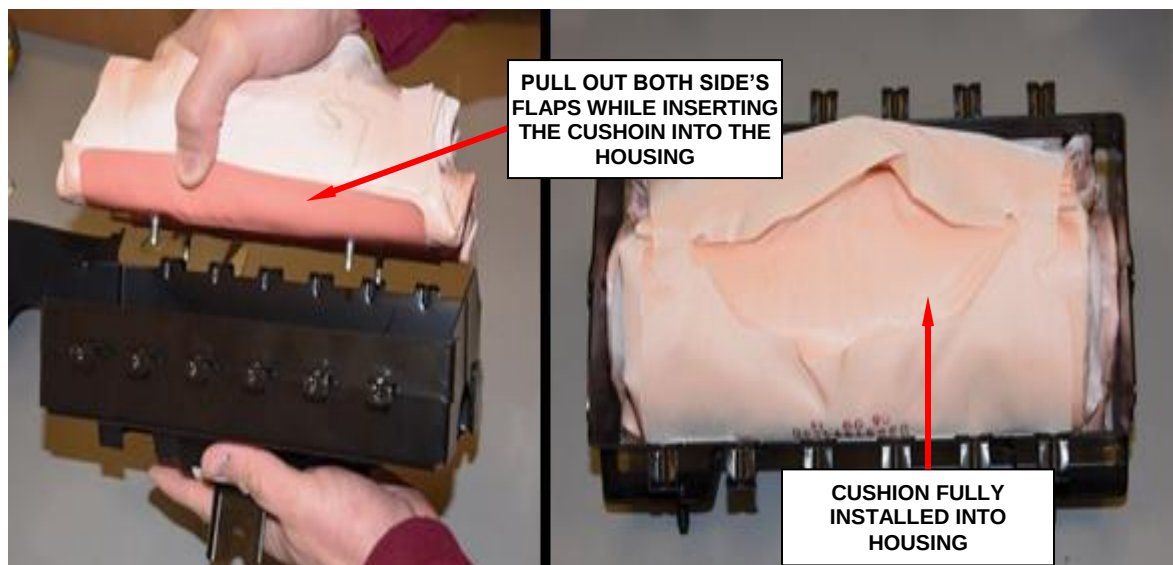

Figure 170 - Side Flaps Must Be Held Out
j. Insert the cushion, pulling out both side flaps (Figure 170).